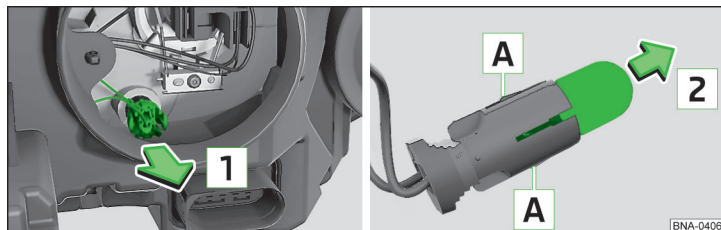

Fig. 109 Change the light bulb for the parking light
- › Remove the pedestal with the bulb by jiggling it out in the direction of arrow **1** » fig. 109.